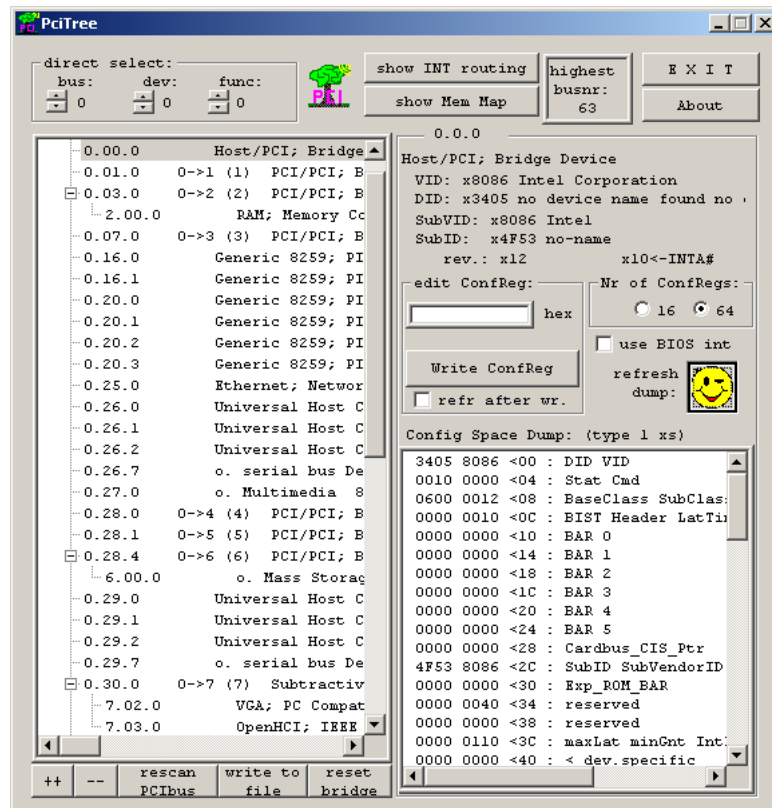

Figure 1-30: Launch the PciTree Tool
11. Launch the PciTree tool and verify the menu shown in Figure 1-30.